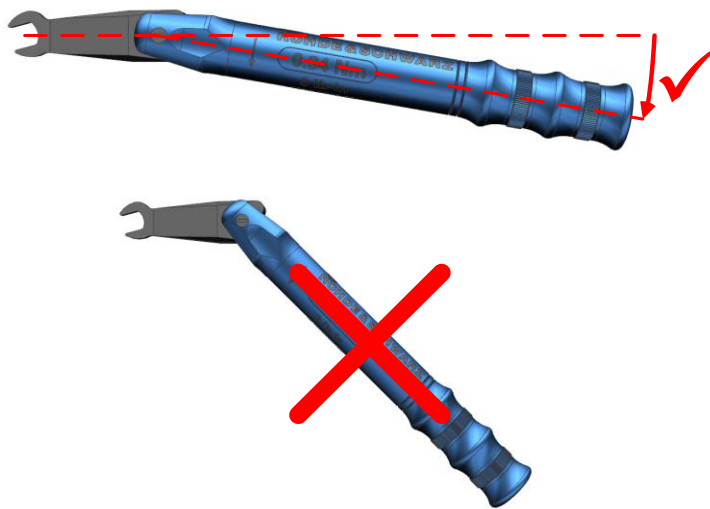

Fig. 4-8: Correct torque setting (top). Too far (bottom)
5. The correct torque is reached when the torque wrench “breaks” as shown in Fig. 4-8. Additional force beyond this limit should not be applied.